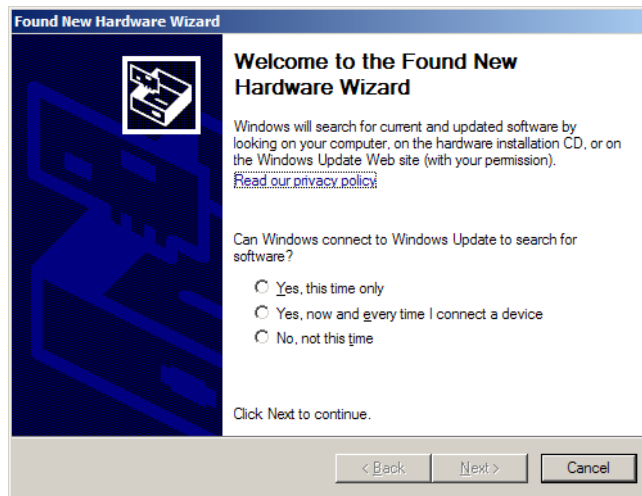

FIGURE 6. “Found new hardware” window
1. After you build the interface it is ready to be connected to your computer. Windows will detect attachment of an unknown device and will start the driver installation procedure (see figure 6).